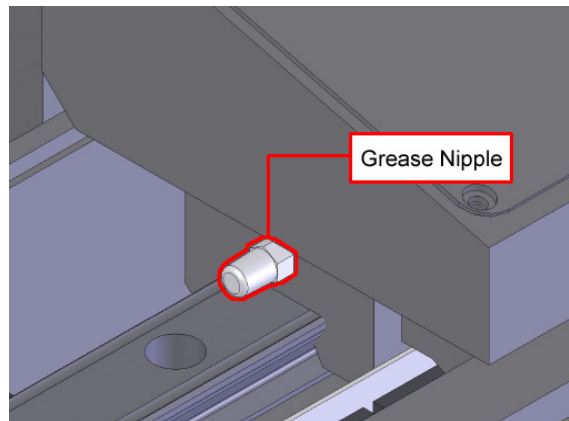

Figure 4-15: Linear Bearing Grease Nipple
- Step 7: Using the grease nipple on each linear bearing truck (refer to Figure 4-15), add grease as required.